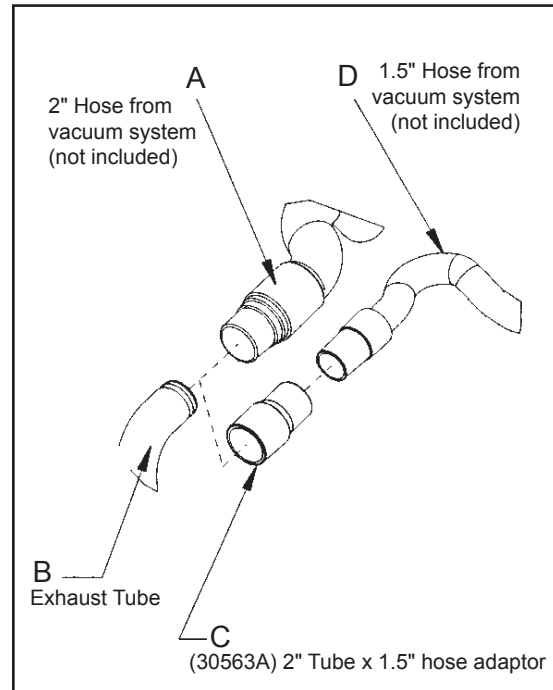

Figure 4
1. Install 2" hose end (figure 4, A) directly into the exhaust tube (figure 4, B).
1. Install the 2" x 1½" hose end adaptor (Part No. 30563A) (figure 4, C) over the exhaust tube (figure 4, B).
2. Insert 1½" hose end (figure 4, D) into the adaptor (figure 4, C).